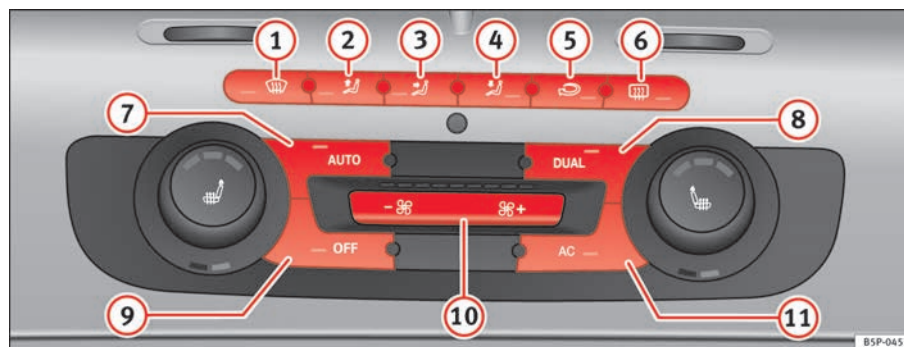

Fig. 131 On the dash panel: 2C Climatronic controls
- Turn the temperature control knobs ⇒ fig. 131 ⑨ or ⑭ in order to adjust the temperature on the left hand side or the right hand side respectively.
- Press  ⇒ page 159, fig. 131. “AUTO High” is shown on the radio display (high fan speed).
- Press  again ⇒ page 159, fig. 131. “AUTO Low” is shown on the radio display (low fan speed).